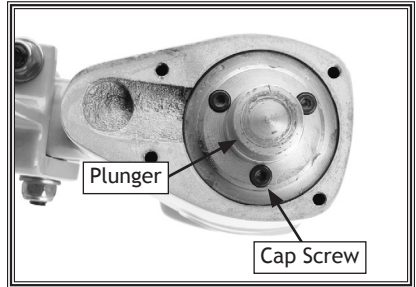

Figure 9. Plunger and cap screws.
- Remove the three cap screws from the top of the plunger (see **Figure 9**).